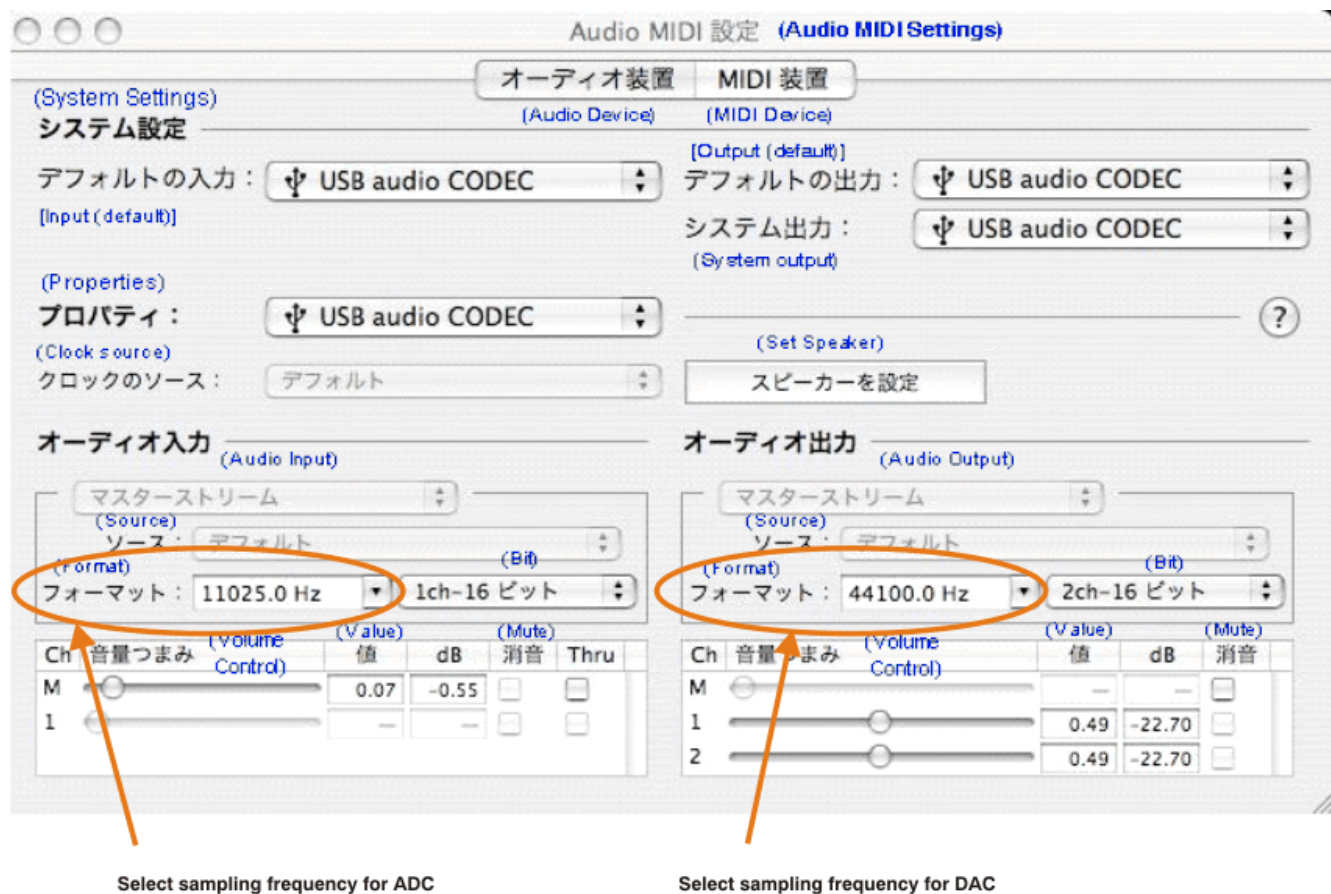

Figure 3-16. Audio Midi Setting Window (Mac OS)
1. Open the *Audio MIDI Settings* options (*Application*→*Utility*→*Set Audio MIDI*), as illustrated in Figure 3-16.
2. Select the *Audio Input* tab in the *Set Audio MIDI* options group, as Figure 3-16 shows.
2. Select the *Audio Output* tab in the *Set Audio MIDI* options group, as shown in Figure 3-16.